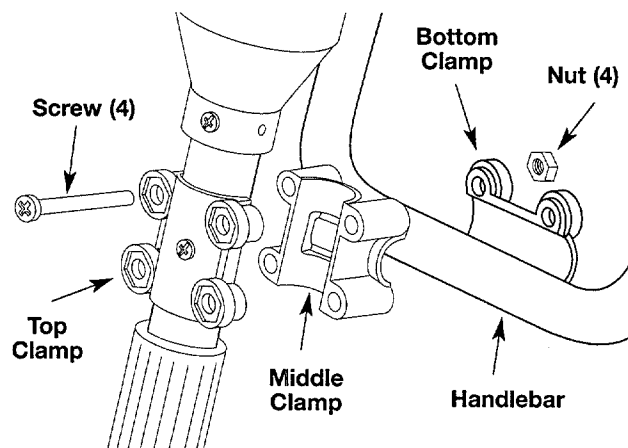
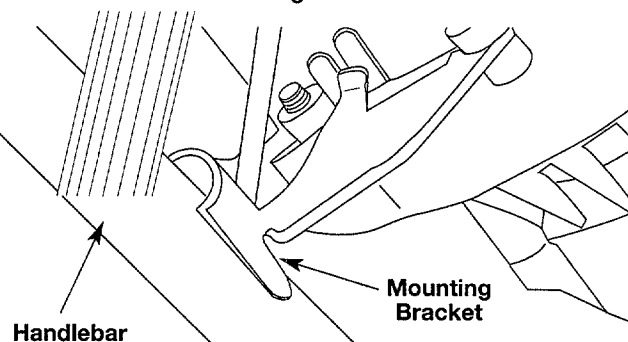

Figure 5
Figure 6
2. Place the handlebar between the bottom and middle clamp pieces. See Figure 5.
4. One at a time, hold a hex nut in the bottom clamp recess with a finger and install a screw through the clamp assembly. Start screw with a large Phillips screwdriver. Do the same with the other three (3) nuts and screws. Do not tighten until you make the handle adjustment.
5. Position the two (2) handlebar clamps with one on each side near the top of the handlebar. Swing the handlebar up until it sets to the outside of the two mounting brackets on the engine. See Figure 6.